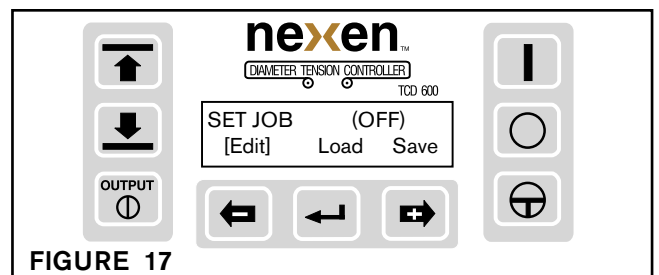

FIGURE 17
1. Press the minus button to select Set Job, then press Enter. The upper display line changes to Set Job and the lower display line allows you to select Edit, Load or Save (See Figure 17). Select Edit and press Enter.